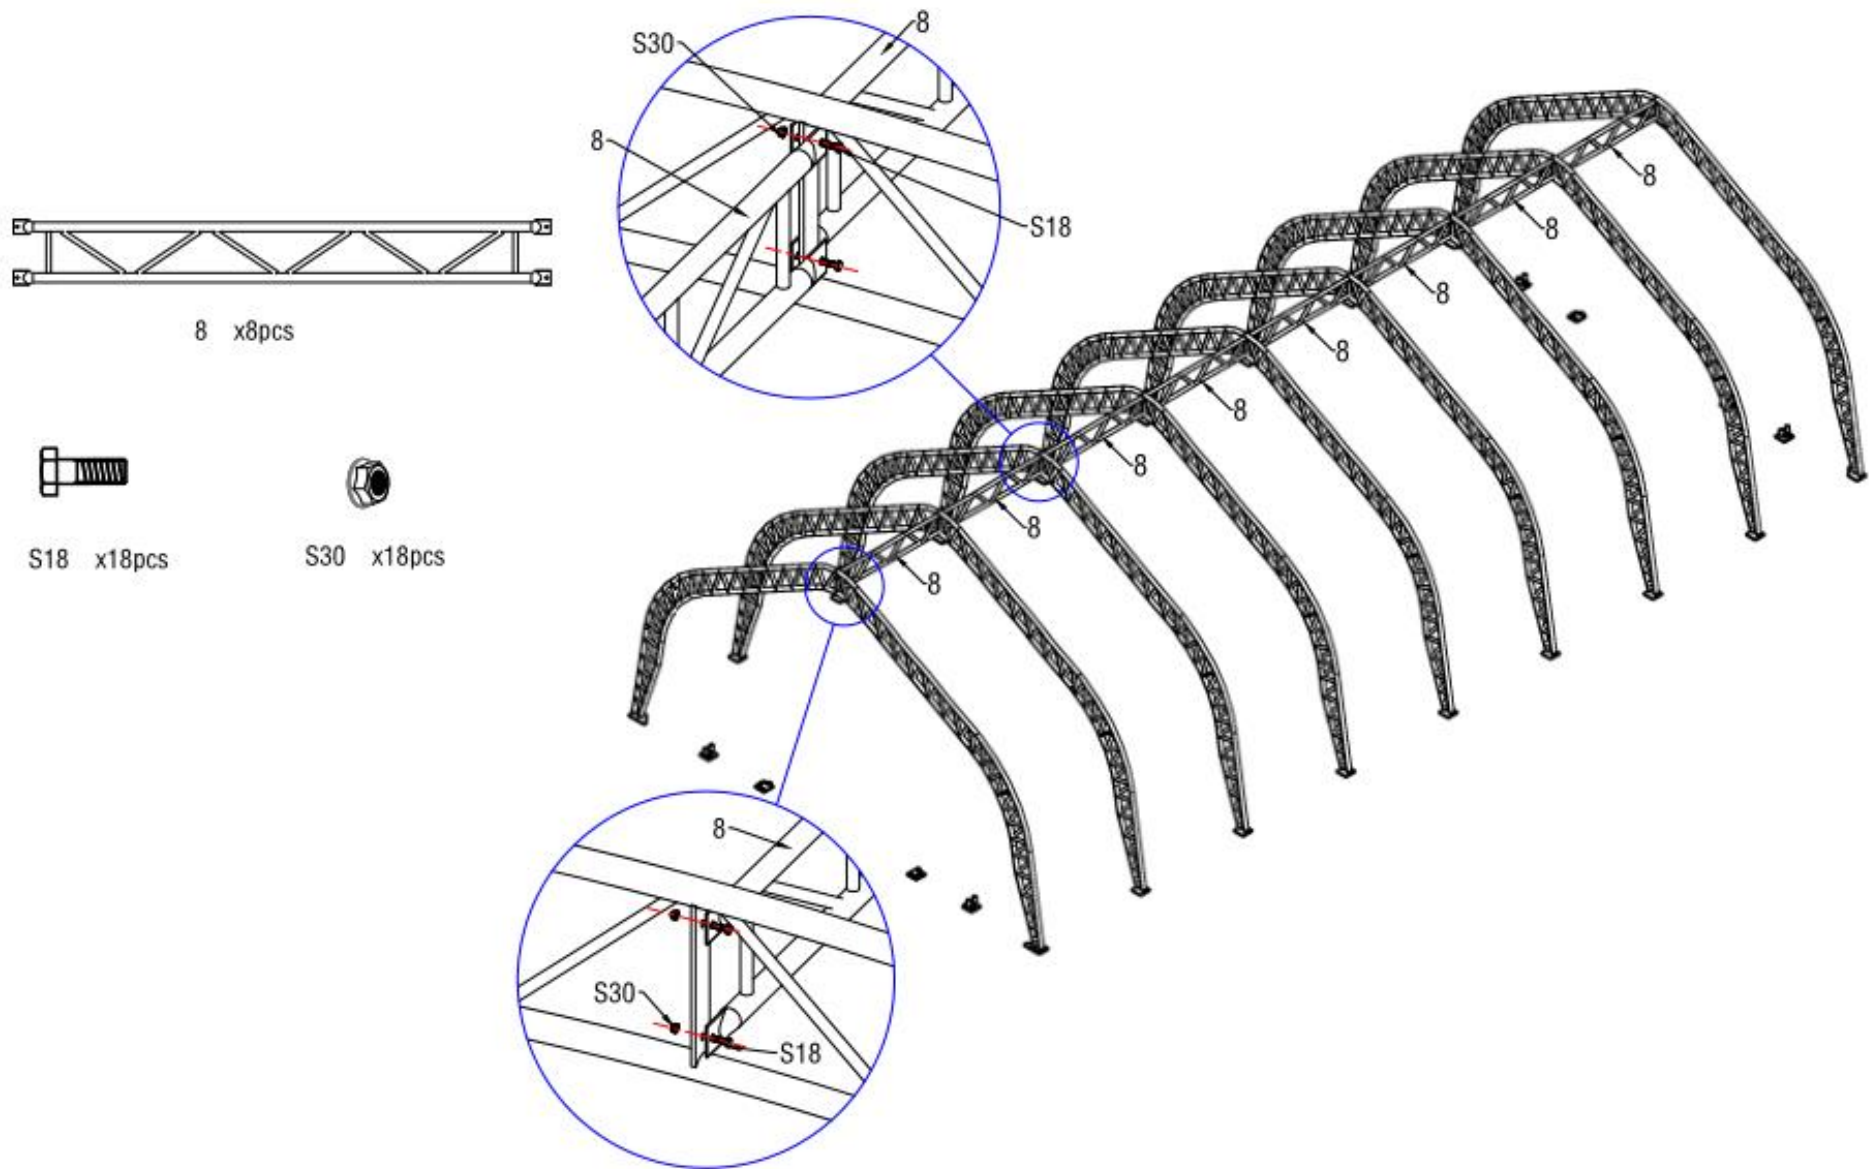

Figure 7
4. Above Figure 7 shown when finish installing all the arches into the base plates, use Double Trussed Purlins (No.8) to connect them by Screw M10x30 (No.S18) . Then use Purlins(No.9) to connect the arches by Screw M10X30 (No.18). In this turn, fix all other purlins. Finished stretch frame as below(Figure 8)